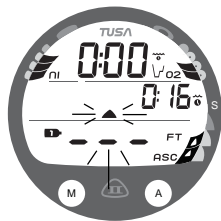

Fig. 64 - DV3 MAIN
**DV3 Main**, information includes (Fig. 64) -